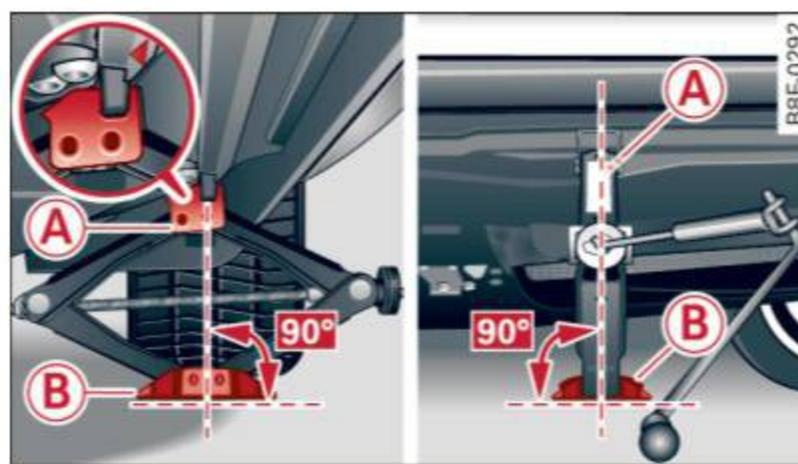

Fig. 206 Sill: positioning the vehicle jack
- ▶ Turn the **vehicle jack** located under the lifting point on the sill to raise the jack until the jaw ⇒ *fig. 206* (A) covers the **notch** on the vehicle ⇒ ⚠ ⇒ !.
- ▶ Align the vehicle jack so the jaw (A) covers the notch and the base plate (B) is flat on the floor. The base plate (B) must be *vertical* under the lifting point (A).